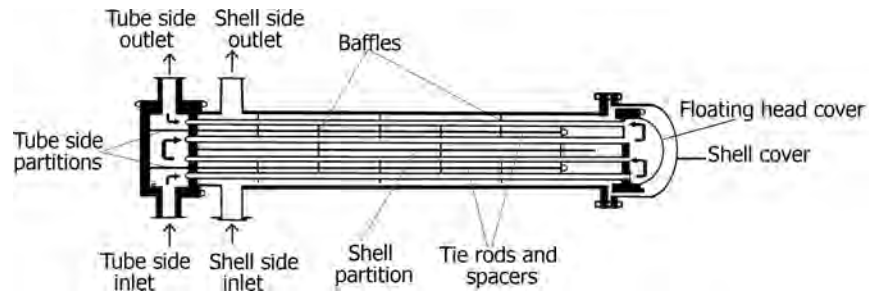

FIGURE 10.5 2-4 Floating head heat exchanger with baffles.
- 2–4 exchanger means that it has two shell passes and four tube passes (Figure 10.5).
- A solid longitudinal baffle is provided to form a two-pass shell (see TEMA F-type shell in Figure 10.2 and also Figure 10.5 of 2–4 floating head exchanger for figures).